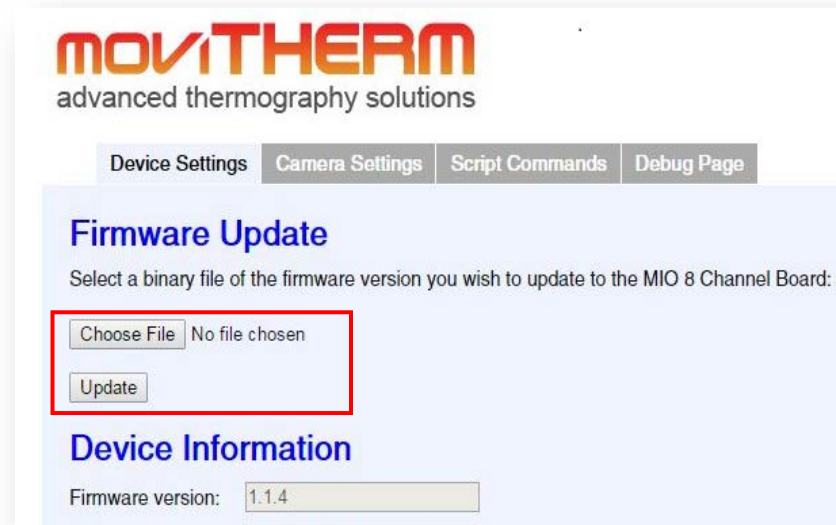

Figure 9: Buttons for initiating the Firmware Update
- 2) Click the “Choose File” button under “Firmware Update” on the “Device Settings” tab (Fig. 9)
- 4) Click the “Update” button under “Firmware Update” on the “Device Settings” tab (Fig. 9)